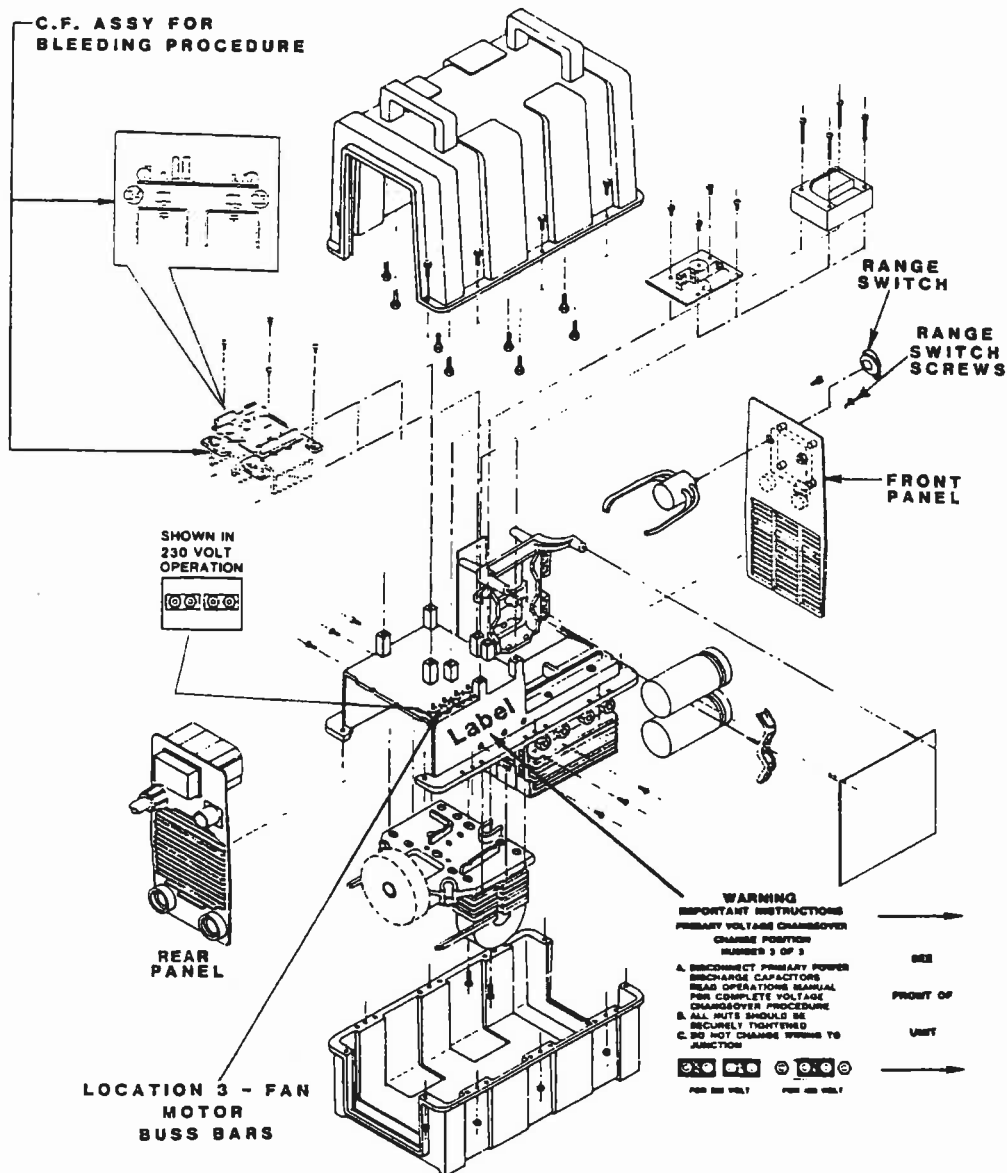

Figure 5 - Location 3, Voltage Changeover
- 3) Copper buss bars for fan motor (left rear side of unit, see Figure 5.)
- A) Locate and read the warning label for the copper buss bars shown in Location 3 of Figure 5.
- B) Locate the C.F. assembly inside the unit as shown in Figure 5. The C.F. assembly can be identified by two aluminum heatsinks which contain three diodes each.